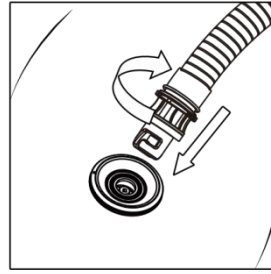

Fig 2
- * Install the other end of the hose into the supporting air tap of the air bag (Fig 2) and twist clockwise to tighten it and then insert the inflation valve of the air bag and twist clockwise to fix it (Fig 2).